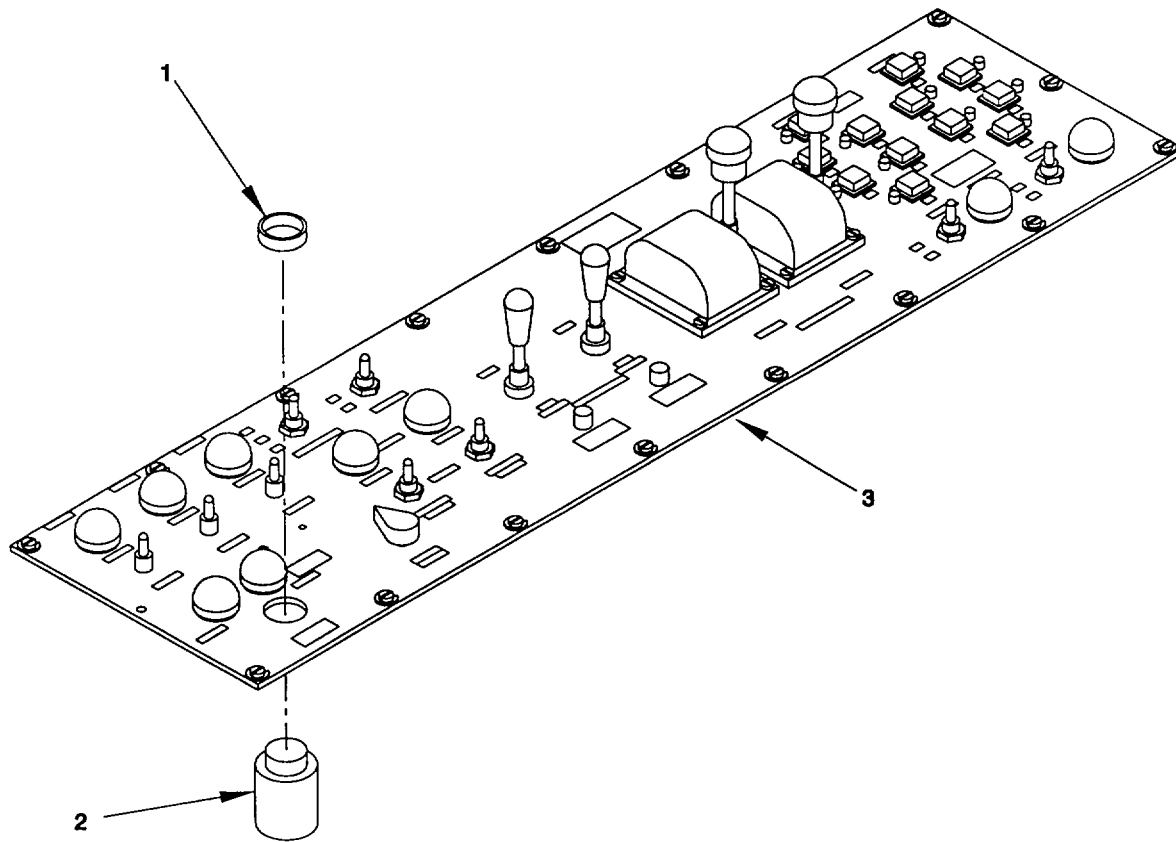

Figure 2-127. Sonalert Beeper, Lower Control Panel "A2", Remove/Install.
a. *Remove.* (figure 2-127)
- (1) Tag and disconnect electrical wiring to sonalert beeper (2). Refer to Appendix G.
- (2) For removal of the sonalert beeper LS1 (2), remove the knurled nut (1) from the top side of the lower control panel (3) and pull the sonalert beeper (2) through the bottom side of the lower control panel (3).
b. *Install.* (figure 2-127)
- (1) Position new sonalert beeper LS1 (2) from the under side of the lower control panel (3). Secure with the knurled nut (1) on the top side of the lower control panel (3).
- (2) Reconnect electrical wiring, as tagged, to sonalert beeper (2). Refer to Appendix G. Use tie wraps and mounting bases to secure any loose wires.